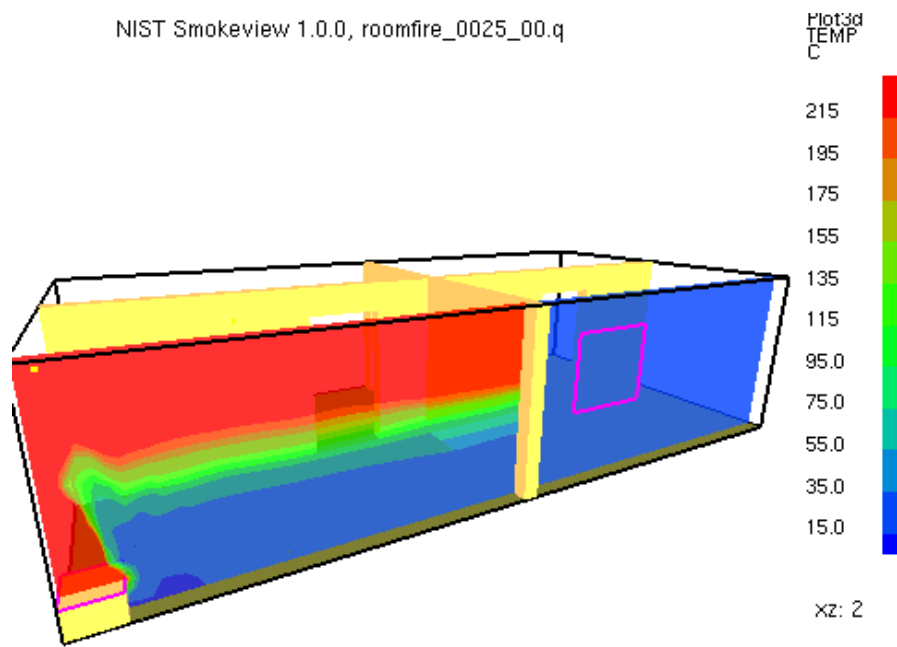
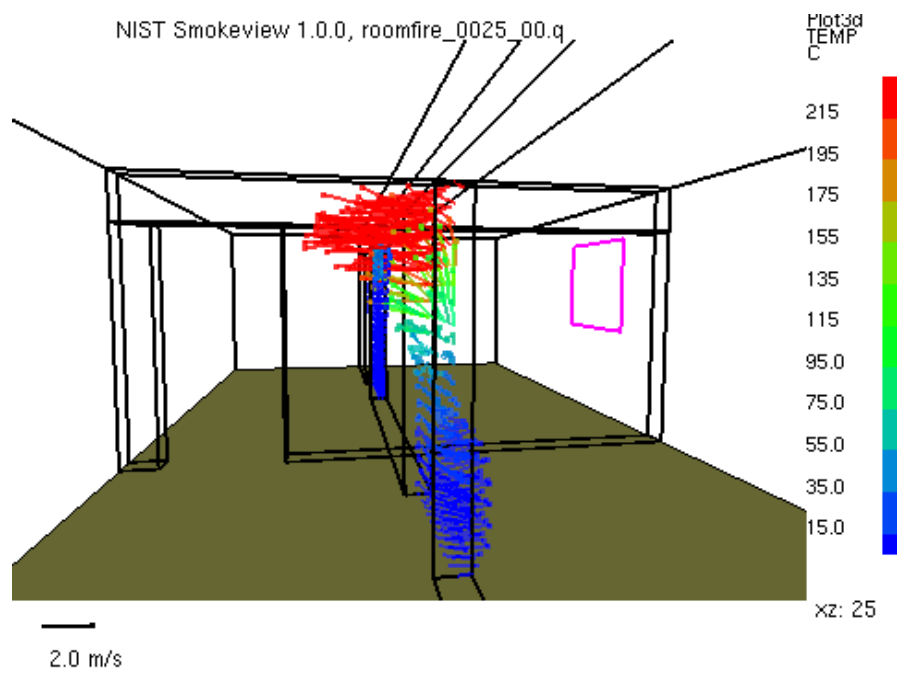
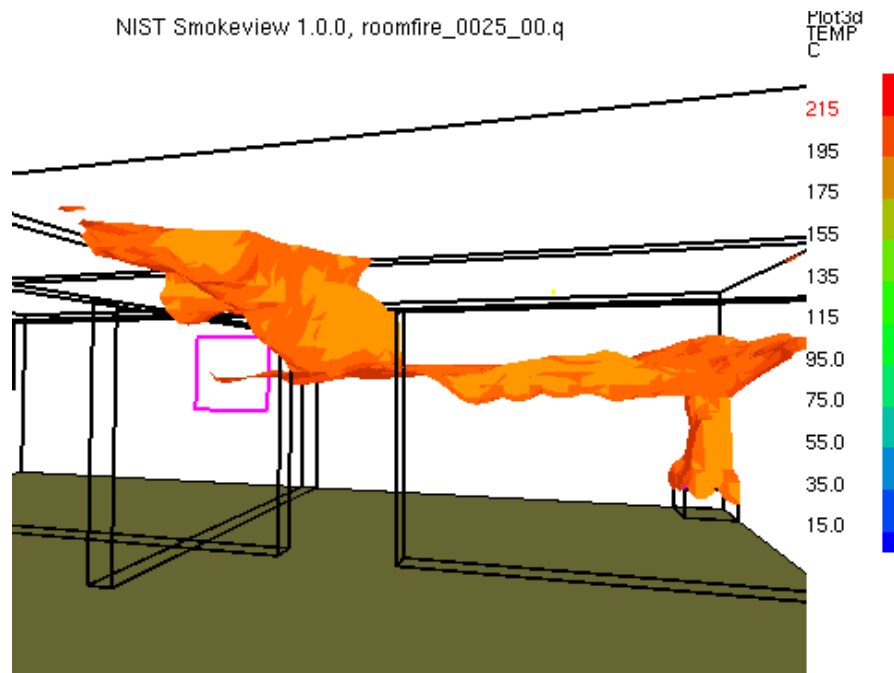

Figure 5: PLOT3D Contour Example
Figure 6: PLOT3D Vector Plot through a door
Figure 7: PLOT3D Iso-contour Example
**PLOT3D files** PLOT3D files store five data values at each grid cell. FDS stores temperature, three components of velocity (U, V, W) and heat release rate by default. Other quantities may be stored if desired. In addition the PLOT3D format allows one to specify internal blockages so that contour data need not be displayed where the physical domain is blocked off. PLOT3D[6] files store data in a standard format developed by NASA and used by many CFD programs for representing simulation results. An FDS simulation will typically create PLOT3D files at several times. PLOT3D data is visualized in three ways: as 2D contours, vector plots and iso-surfaces. 2D contours2 along either of the XZ, XY or YZ planes. In the default Smokeview view, the X and Z coordinate axes are parallel to the horizontal and vertical screen edges respectively while the Y coordinate axis occurs front to back “within” the screen. Figure 5 shows an example of a 2D PLOT3D contour. Vector plots may be viewed if one or more of the U,V and W velocity components are stored in the PLOT3D file. The vector length and direction show the direction and speed of fluid flow travel while the vector colors show the solution value. Figure 6 show vectors which indicate flow direction. 3D contours or iso-surfaces show where the solution attains one particular value. Figure 7 gives an example of an iso-surface. PLOT3D data are stored in files with extension .p1.